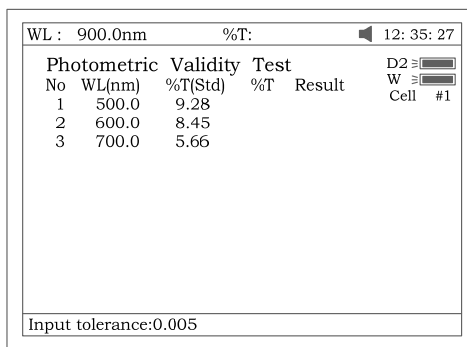

Fig 93
4. Press **[F3]** to set tolerance (Fig 93). Input the value by pressing the numeric keypad.